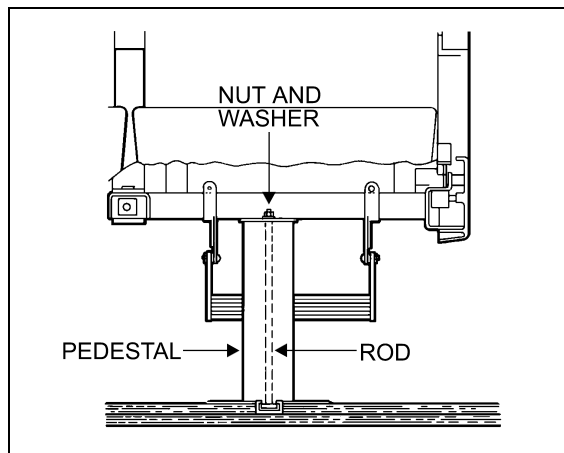

FIGURE 25: SEAT PEDESTAL ASSEMBLY
6. Remove 2 nuts and washers holding seat frame to pedestal rods. See figure 25.